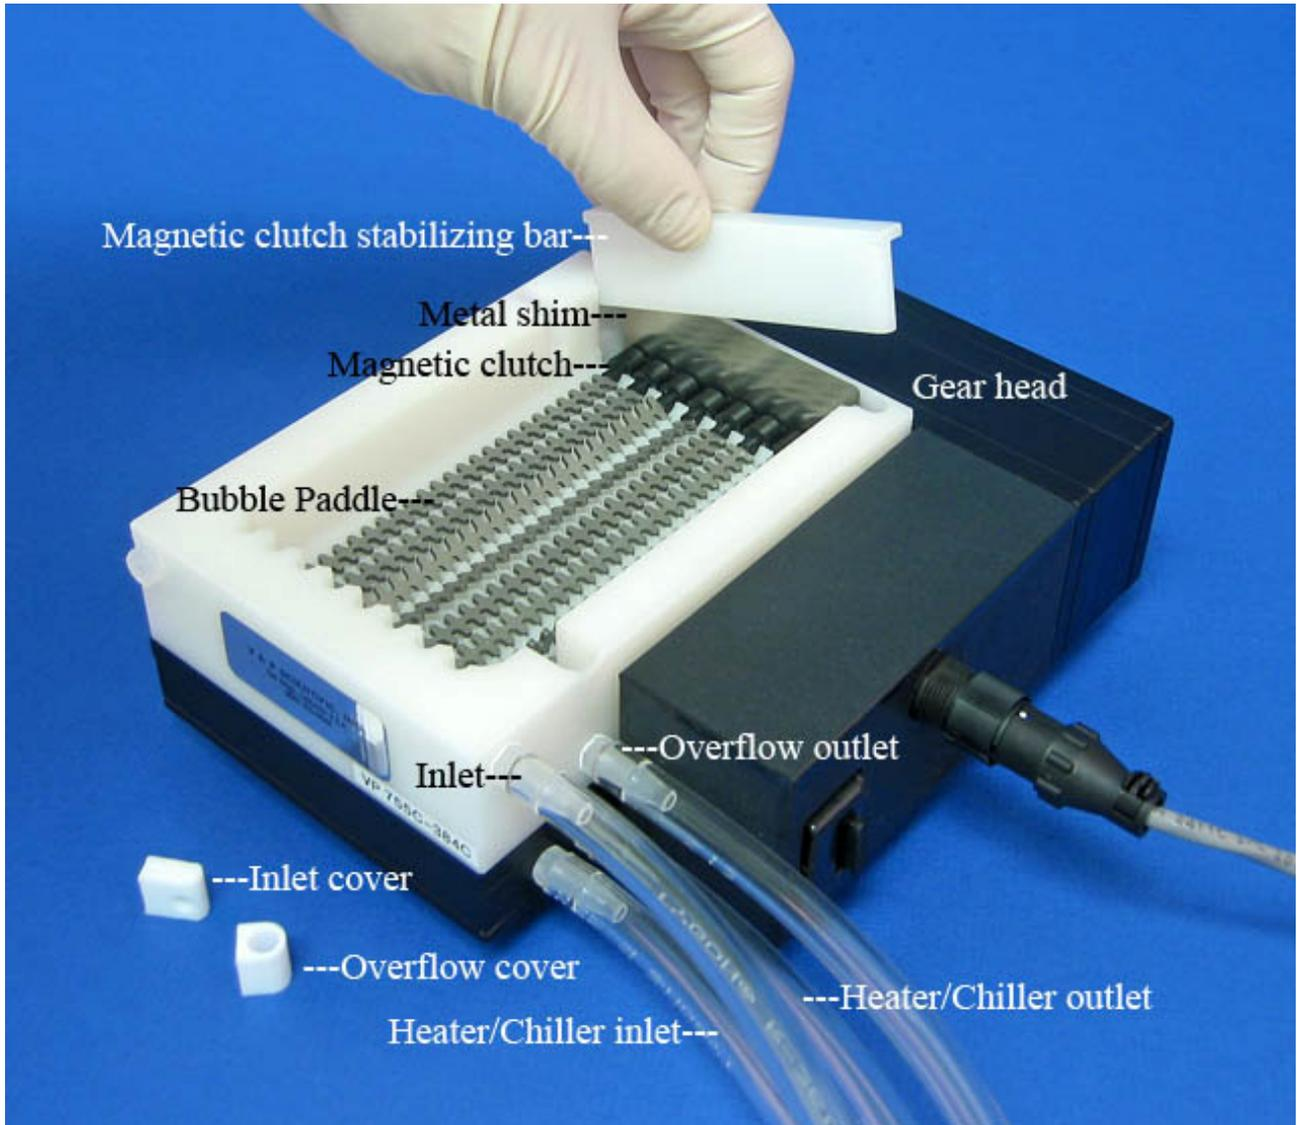

Figure 3. Illustrates the placement of the overflow weir cover on the weir in static operational conditions.
4. Connect the inlet and outlet tubing to the reservoir nipples and adjust the reservoir liquid level by turning the hollow overflow weir screw up or down with the provided Allen wrench, see Figure 4. If you are not going to be continuously adding solution, adjust the overflow weir to the highest level and place the overflow cover to prevent particulates from collecting in this area as shown in Figure 3.